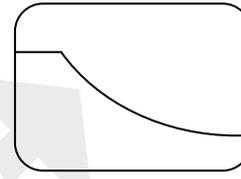

Figure3-29
B. If you don't need it, press  directly, the AVG curve production is completed and return to the main interface, the screen displays a curve. Such as Figure 3-29